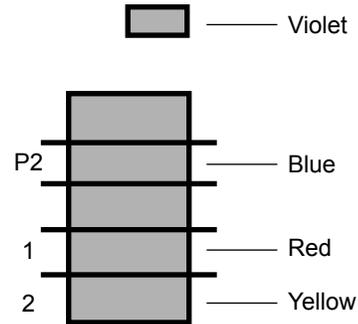

Fig. B6-3 - Connections to low water cutoff control
2. Disconnect the three wires on the terminal strip, and the violet wire that runs to the connector above the terminal strip. See Fig. B6-3.